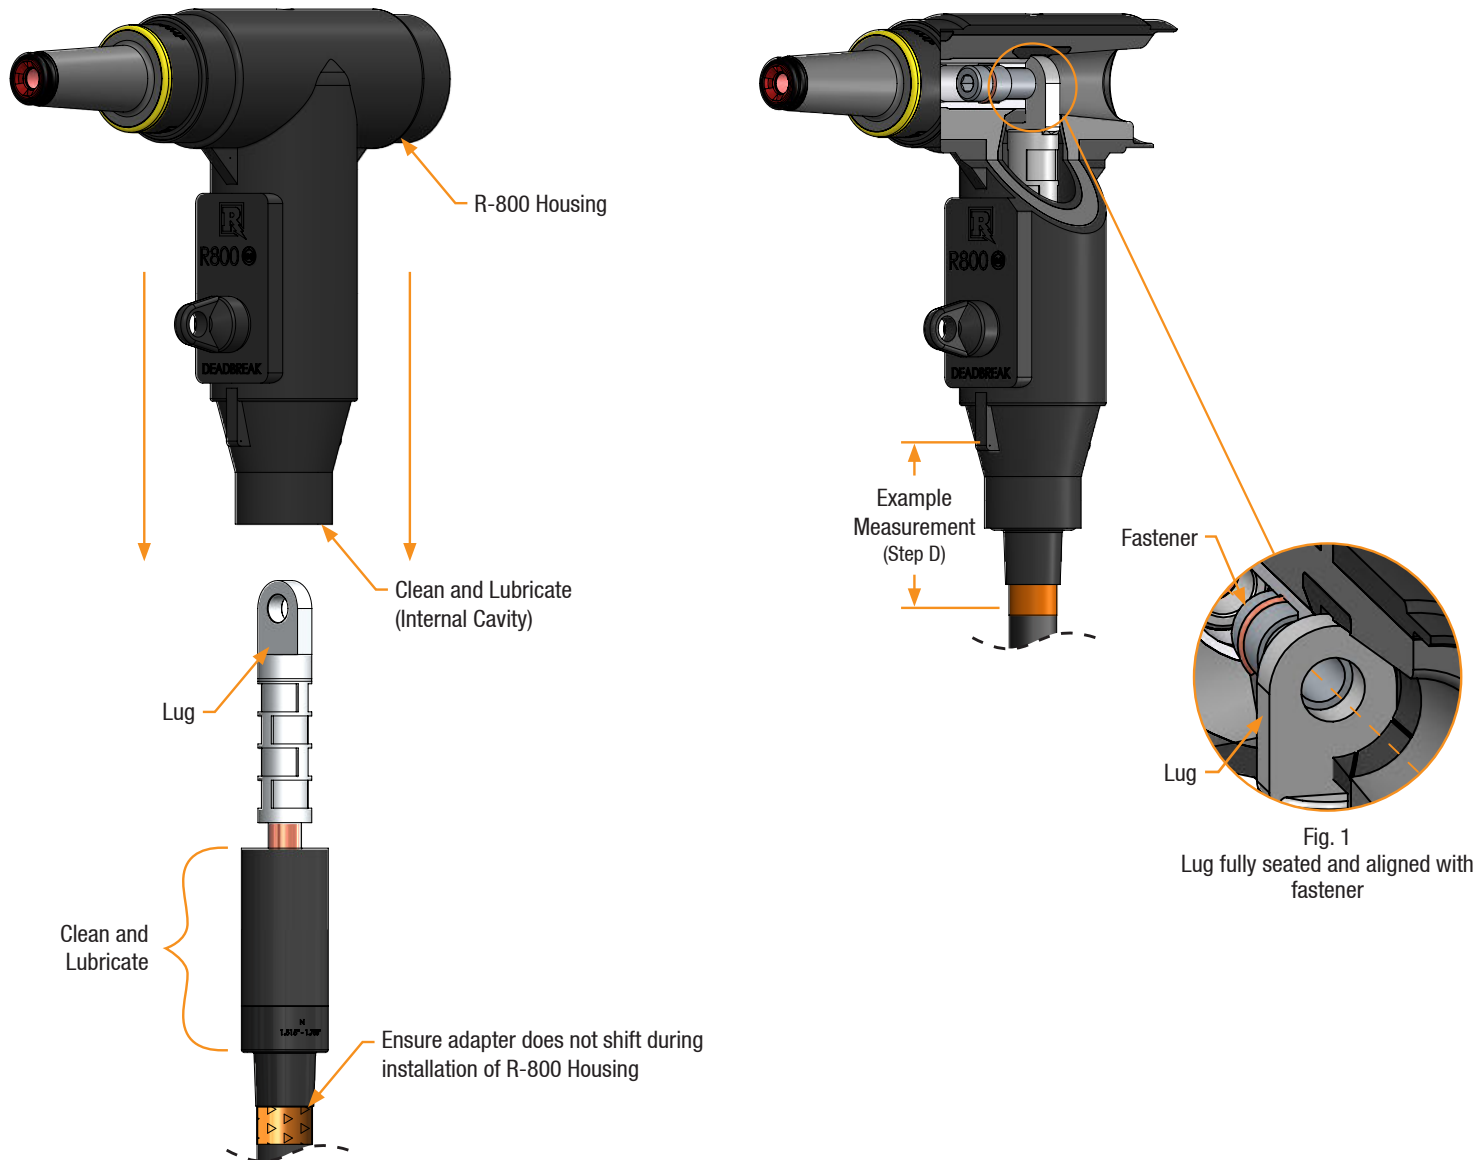

Fig. 1
- C. Visually confirm lug spade is completely seated (see Fig. 1).